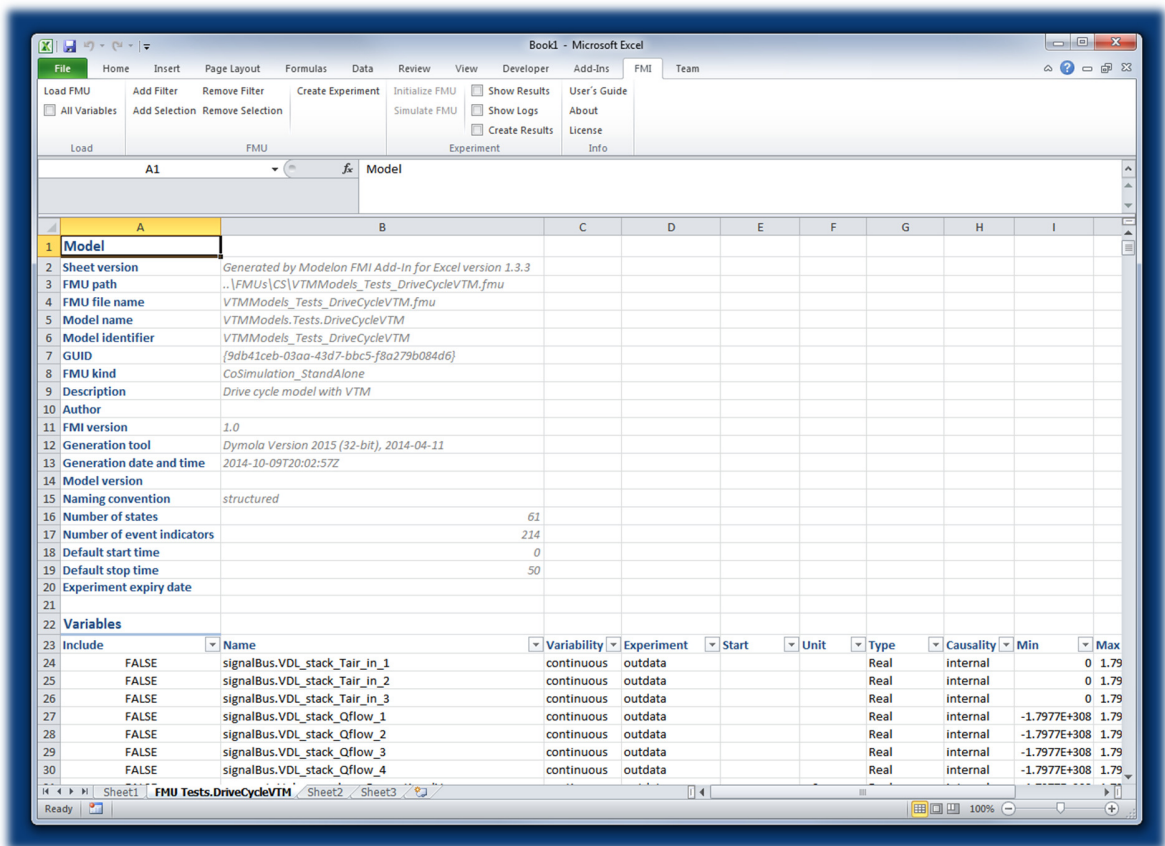

Figure 15 FMU Worksheet
- 3) A new sheet is created with the prefix "FMU" (e.g. FMU Tests.DriveCycleVTM). There are two areas in the new sheet, one for model metadata ("Model") and one for the variables in the FMU ("Variables"), see Figure 15. The metadata section contains general information about the FMU, e.g. model name, FMU kind, number of state variables, etc. The Variables area lists the variables with name and their corresponding attributes, including start value, unit, data type, etc. There are two columns that do not correspond to any FMI attribute: the "Include" column and the "Experiment" column. The Include column indicates if the variable will be included in the experiment or not. The Experiment column indicates if a variable will be used as an input or an output.